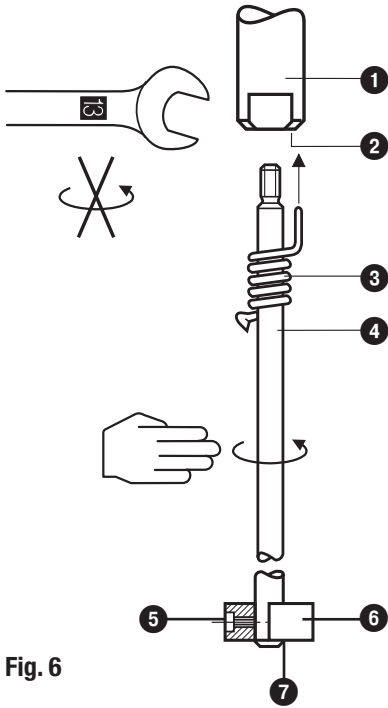

Fig. 6
1. Screw the electrode extension ④ into the measuring electrode ①. Fig. 6
3. Using a scribe, mark the appropriate length on the electrode extension ④.
4. Unscrew the electrode extension ④ from the electrode ① and cut with a hacksaw. Remove any burrs with a flat file.
5. After a visual inspection, screw the extension ④ firmly into the electrode ①. Push the retaining spring ③ onto the electrode extension ④ until it is securely seated in the hole ②.
6. Fit the enlarged measuring surface: Push the washer ⑥ onto the extension in such a way that the extension projects 2 mm beyond the underside of the washer. Secure the washer with the set screw ⑤ in this position. Push the supplied retaining ring ⑦ over the electrode extension from below onto the washer ⑥.